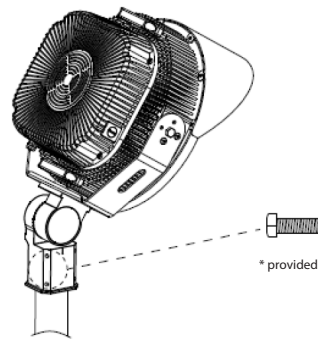

FIG. 2
- 2) Use 4pcs of bolts and nuts (provided) to fix slip fitter on the pole [Fig.2].